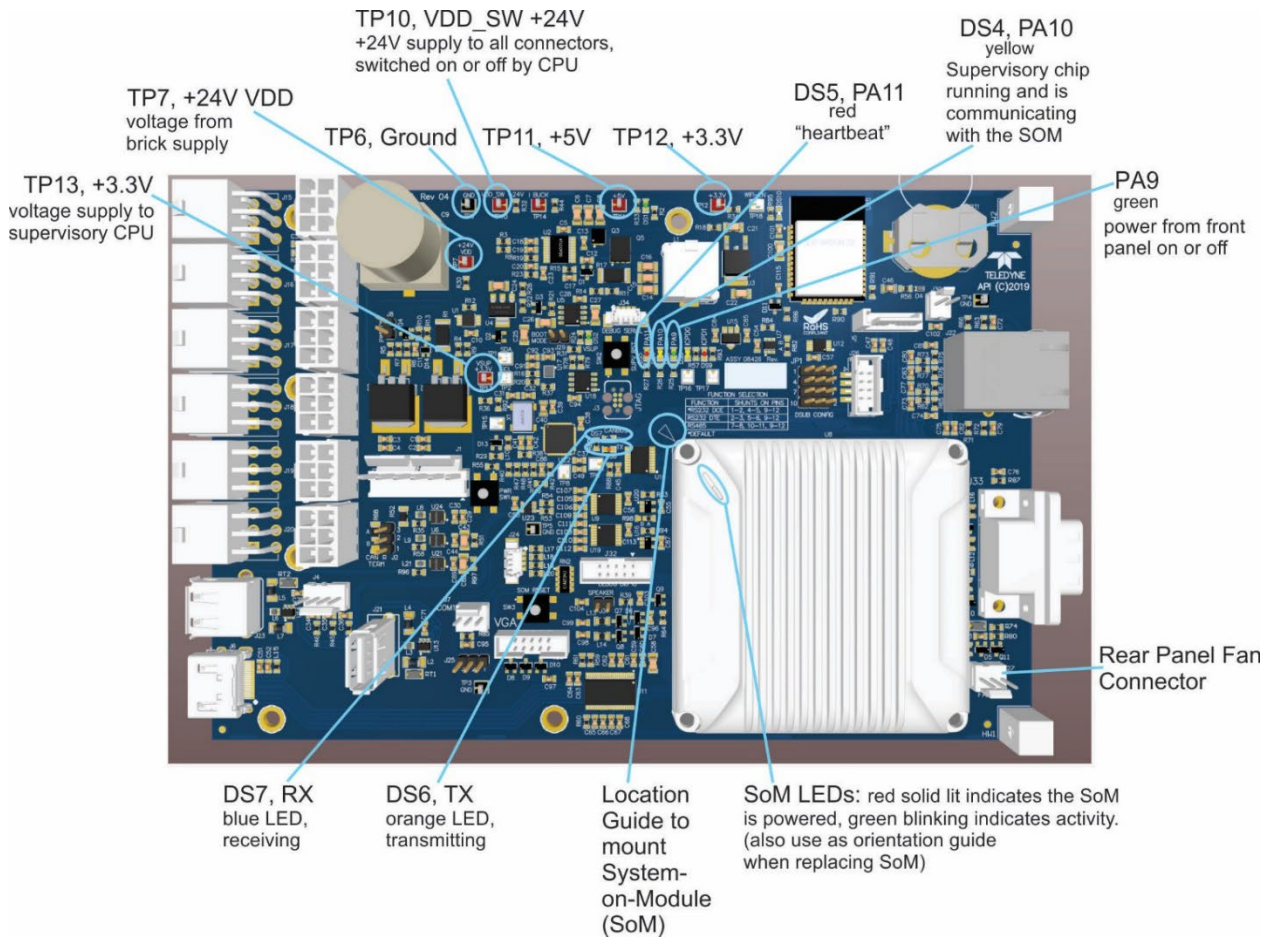

Figure 5-5. Mainboard
- checking the internal electronic status LEDs to determine proper operation/functionality (see Figure 5-5).
The following illustrations show connectors and LEDs that can indicate where issues may lie. Figure 5-5 shows the layout for the mainboard.